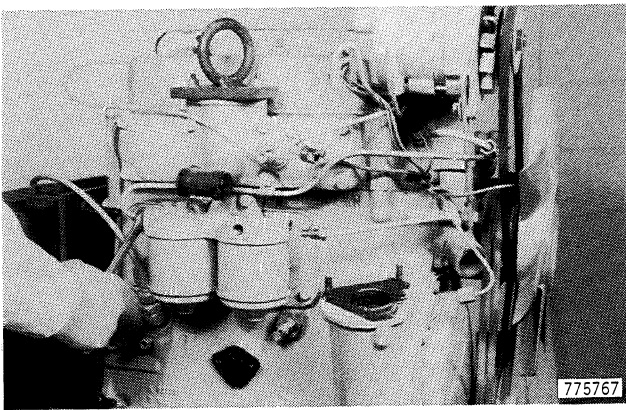

Figure 21
2. Disconnect the tube out of the fuel filter, Figure 21.